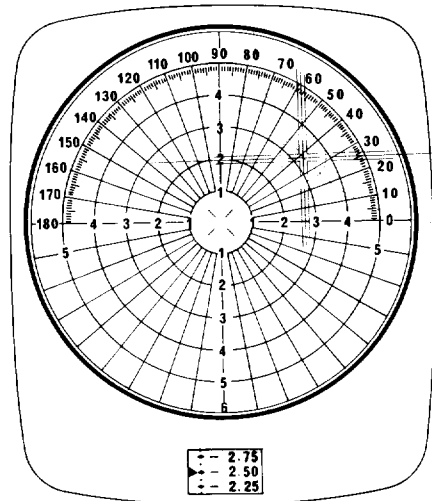

Fig. 10
- Set the compensator to 16Δ and rotate the whole compensator. The target image will run across the screen drawing an arc. (Fig. 10)
Example of Fig. 10: 19Δ Base direction 40°